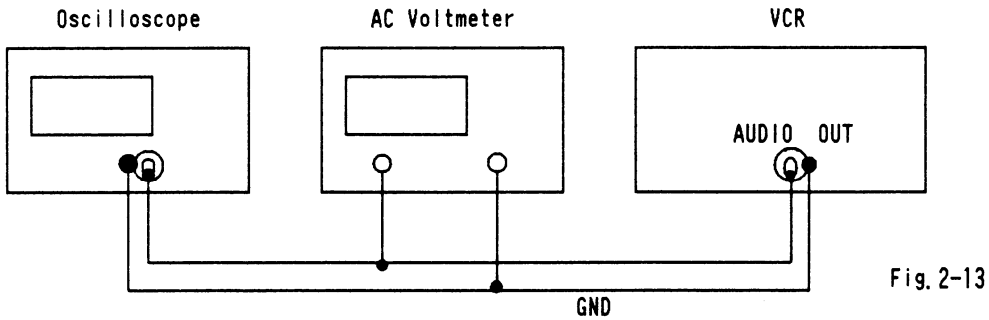

Fig. 2-13
1. Connect equipment as shown in Fig.2-13.
Refer to Fig.2-13